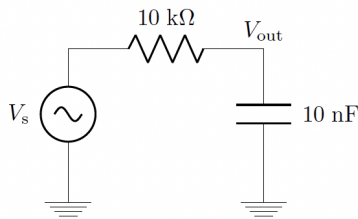

Figure 2: RC circuit.
- P2. For the RC circuit in Figure 2:
- P2.5 Given the resistance (R) and magnitude (G) at a given frequency (ω), solve for C .
- P2.6 Given the resistance (R) and phase (ϕ) at a given frequency (ω), solve for C .
- P3. For a CR highpass circuit (Figure 2, but with the resistor and capacitor swapped):